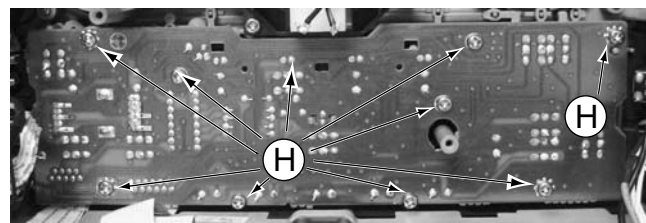

Figure 9
- 3) Loosen 9 screws 'H' to remove the VFD Board figure 9.